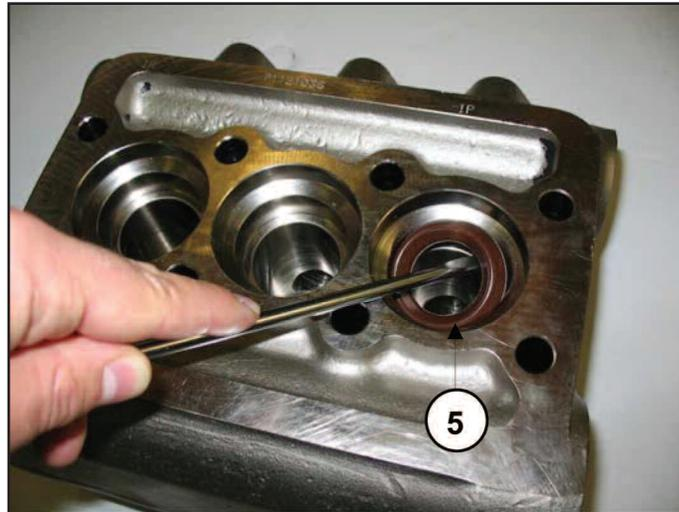

fig. 18
C) Extract the high pressure seals from the head, and the low pressure seals from their related support by using standard tools as shown in fig. 18; be careful not to damage the seals.